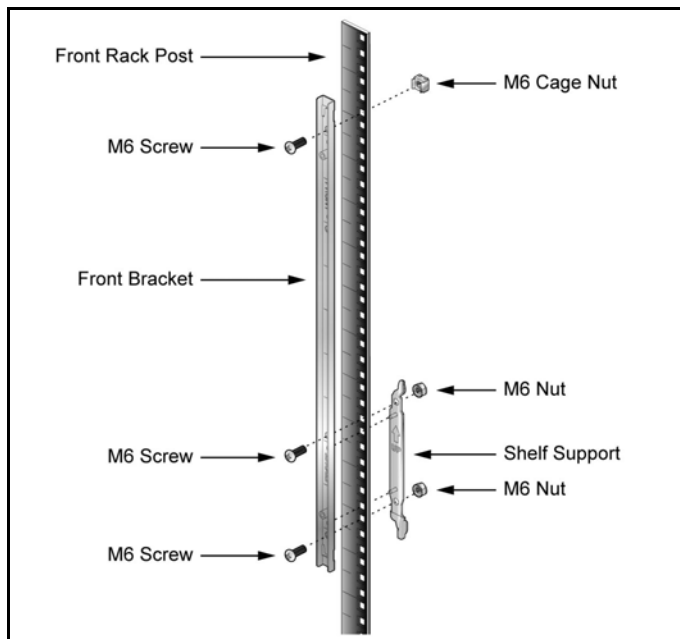

Figure 4: Left Front Post Assembly: Four Post Rack Mount
Step 1 Attach the front bracket and shelf support to the left front rack post, as shown in Figure 4. An up arrow is printed on the shelf support to indicate its proper orientation.